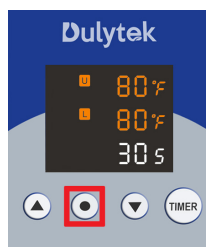

Fig. 1
1. Press Set **⊙** button on the control panel (Fig. 1) to go to the temperature setting mode for the top platen.